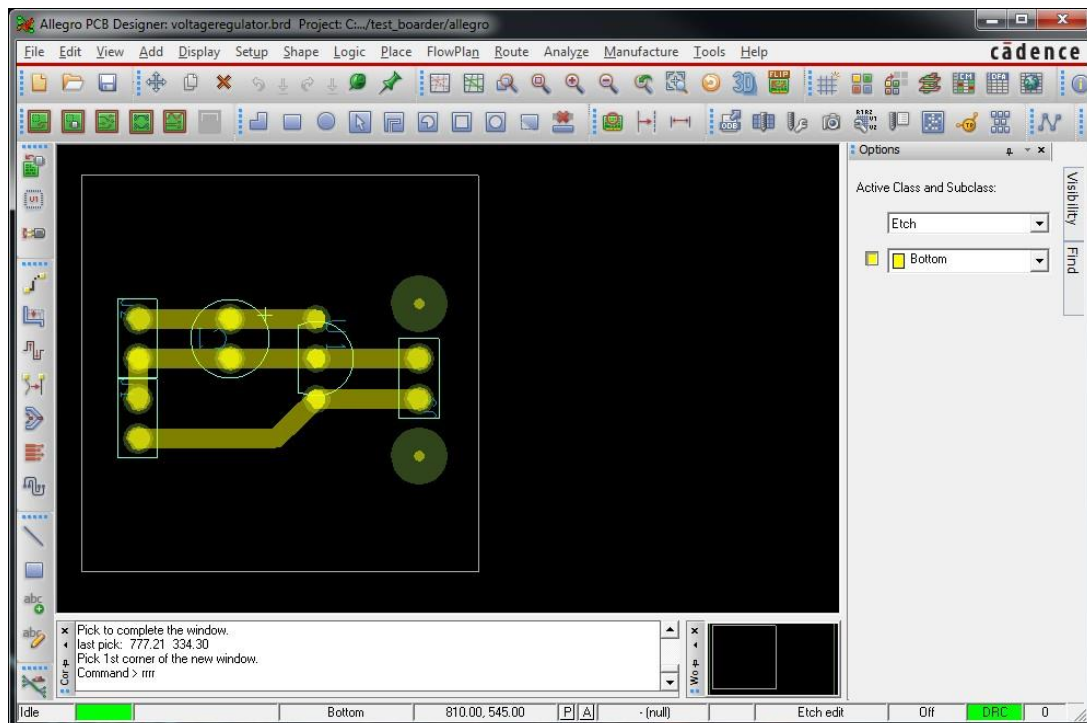

Figure 9. Final layout.
12. Now your job is to place each of your parts inside your board outline as efficiently as possible so that the board will route. This is often a difficult task. Try to find the optimum placement yourself. If you are having difficulty, you can use the final layout of this lab (Figure 9). Optimal placement of the parts can be obtained by making sure that the minimum number of “rats” (i.e. the logical connection between parts) cross one another. You can move parts around by selecting the Move icon then the part you wish to move. If the part is not in the orientation you want then after you select it, right click and select rotate. Move your mouse around until the orientation you want is achieved. Left click to exit Rotate, left click again to place the part where you want it. You might want to have your schematic open while you place your parts. It sometimes helps to visualize which parts should be placed next to each other.